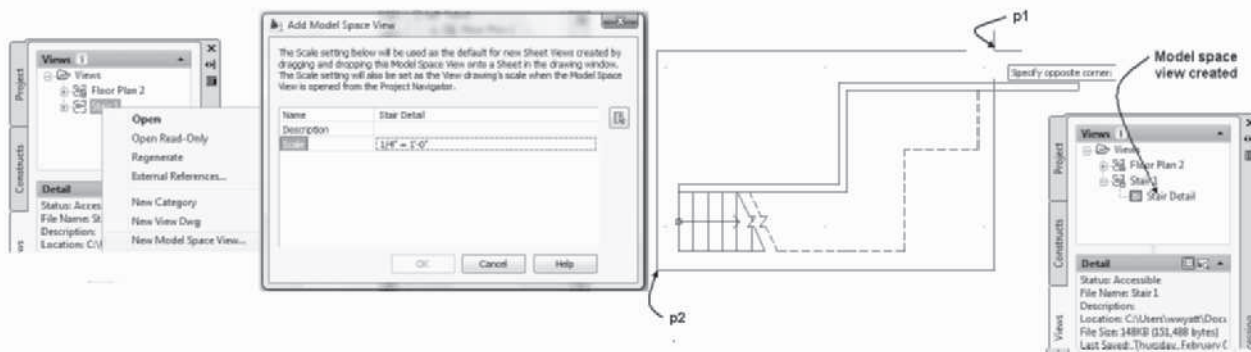

FIGURE 1.79 Creating model space views in a View drawing
2. Select the View drawing name in the **View** tab of the **Project Navigator**, right-click, and choose **New Model Space View** from the shortcut menu to open the **Add Model Space View** dialog box shown in Figure 1.79.
4. Verify that the model space view is listed below the View drawing in the **Project Navigator**, as shown at the right in Figure 1.79.